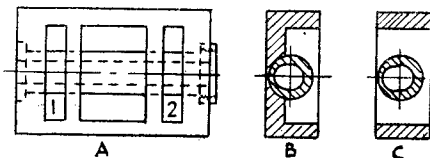

Fig. 17
Fig. 17 is a sketch of the main valve for H.P. cylinder, and, as will be seen, is really in the main, an ordinary D-valve with the exception
that it is sufficiently long to allow the steam ports 1 and 2 to be cut through it as shown at A, Fig. 17, allowing whatever lap may be required on the inner edges of the ports, the total width of the port being equal to the width of port in the valve-face on the cylinder. The foregoing remarks are only a generalisation ; the actual details and dimensions need to be arrived at by geometrical methods.
As the ports are cut right through the valve, and the valve spindle also passes through the valve, but at right-angles to the ports, some means must be adopted to prevent steam passing from one port to the other *via* the valve-spindle passage. This was provided for by boring a hole larger in diameter than the valve-spindle, and forcing a brass bush with a collar at one end and a round nut at the other right through the valve ; see A, Fig. 17. After the bush had been placed in position and the nut screwed up, the end of the bush was riveted over the nut, lightly, more to prevent the nut slacking back than to prevent the bush moving ; this latter defect is not anticipated, as the bush was made a driving fit in the valve. It will be noted that the bore of the bush is not round, but elliptical, the major axis being at right-angles to the face of the valve ; the reason for this departure from the round is to allow the pressure of the steam on the back of the valve, to keep the latter tight up to the cylinder valve-face when under working conditions.
B and C, Fig. 17, show sections of the valve through (B) the exhaust cavity, and (C) one of